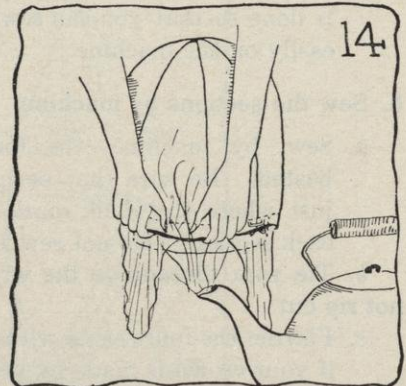

FIG. 14.
- g. Steam the outer crown well until it fits smoothly over the block. Do this by pulling it down well between the staples that are already at the bottom of each seam (see Figure 14).